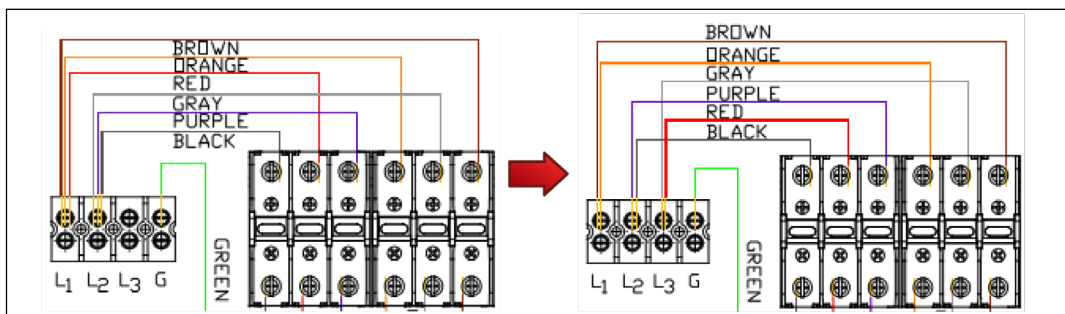

Figure 5 - Converting from Single to 3 Phase Operation
1. Remove the red and grey wires from terminals L1 and L2 respectively. See Figure 5.